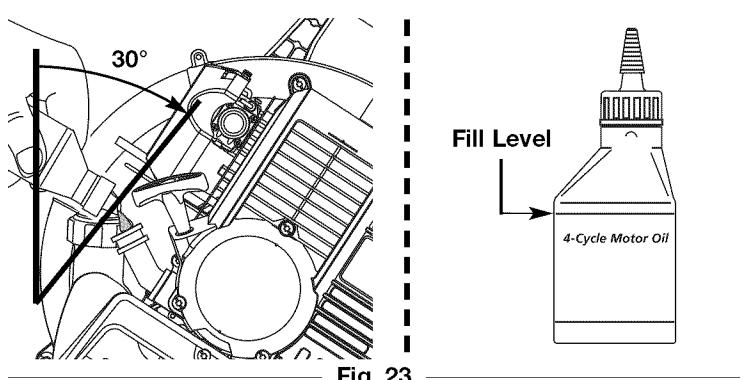

Fig. 23
4. Tilt the unit 30° to the side (Fig. 23).
- NOTE:** Use the bottle and spout saved from initial use to measure the correct amount of oil. The top of the label on the bottle measures approximately 3.04 ounces (90 ml) (Fig. 23). Check the level. See Checking the Oil Level. If the level is low, add a small amount of oil and recheck. Do not overfill (Fig. 23).